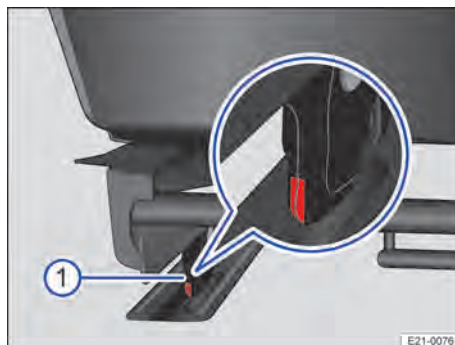

Fig. 74 Third row of seats: Floor locking mechanism indicator.
The seat is engaged securely if the red mark on the floor locking mechanism → Fig. 74 ① is **not** visible → ⚠.